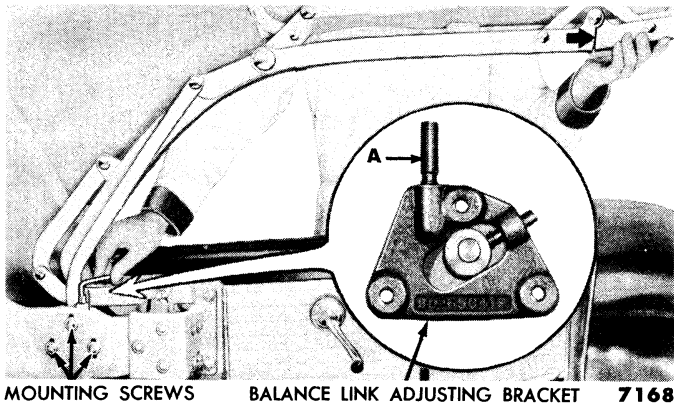

Fig. 20—Balance Link Bracket Adjustment For Sag or Crown in Side Rail
(3) BALANCE LINK ADJUSTMENT. The balance link adjusting bracket is mounted to the quarter panel by three screws (figs. 20 and 21). Two adjustments are provided at the bracket. One adjustment eliminates sag or excessive crown along the top side rail. The other adjustment permits the top to stack properly in the top well.
If the top side rails are sagged or have excessive crown, loosen the three mounting screws at the balance link adjusting bracket. Turn the set screw "A" (fig. 20), clockwise if the side rails are sagged, or counterclockwise if the side rails are crowned. Tighten the cap screws securely after completing the adjustment.